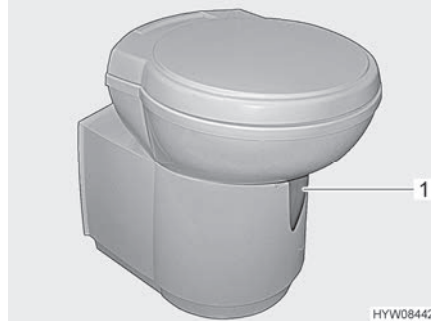

Fig. 81 Thetford toilet bowl (swivelling)
- Before flushing open the sliding trap of the Thetford toilet. To do this, push the slide lever (Fig. 81,1) in an anticlockwise direction.